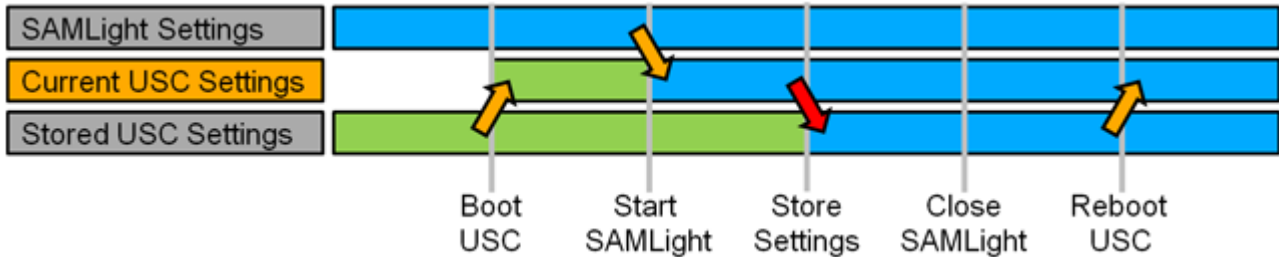
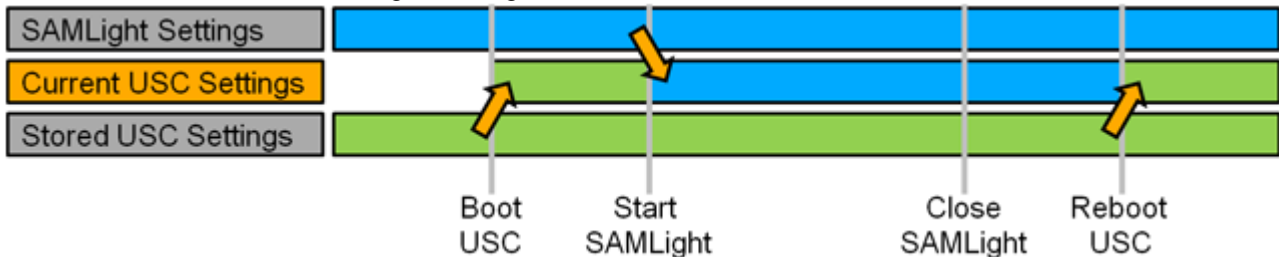

Figure 276: Correct handling: SAMLIGHT and USC settings with proper storing
Figure 277: Common mistake: SAMLIGHT and USC settings without storing leading to change of settings after reboot
- **1: Store settings:** For standalone mode, the USC settings are used. Therefore, it is necessary to store the SAMLIGHT settings on the USC card via the Store button. Please refer to figure 276 and figure 277.
The current USC settings on the USC card change with different events, see figure 276:
- To avoid loss of these current USC settings after reboot of the USC card (see Fig.277), the current settings need to be stored. Storing the settings on the USC card can be done via the Store.
The current USC settings on the USC card change with different events, see figure 277: